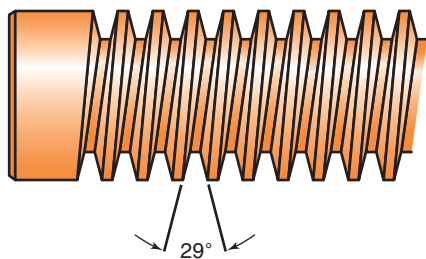

Figure 14-27 Identify this thread form.
2. Identify the thread form shown in Fig. 14-27.